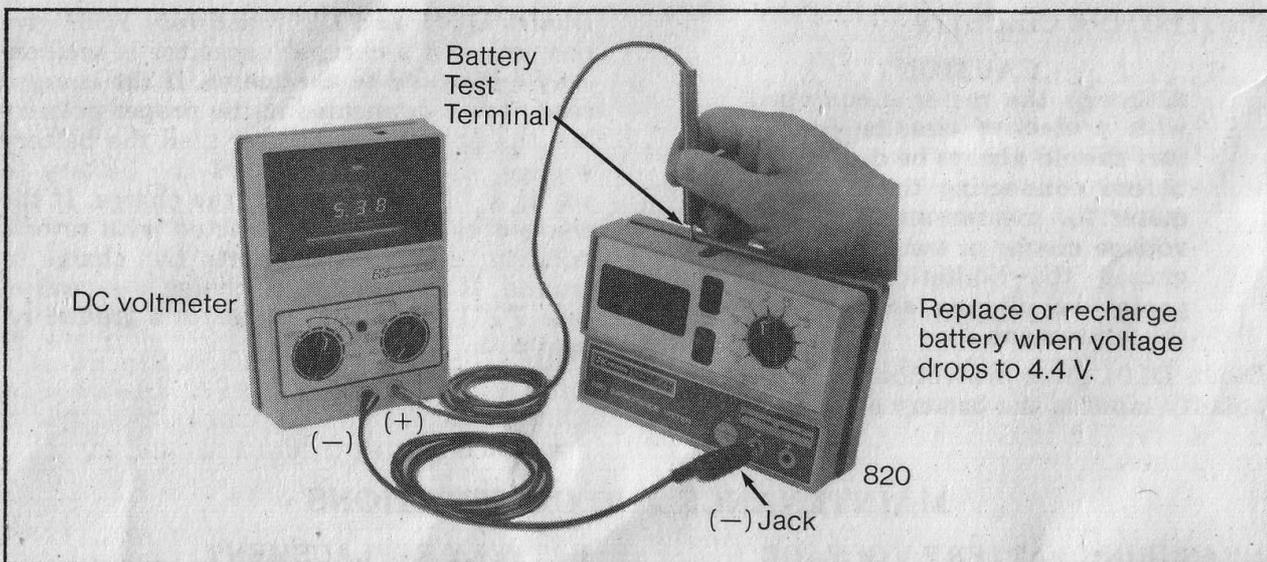

Fig. 3. Measuring battery voltage.
Periodically check battery voltage. Measure the DC voltage between the (-) jack and the battery test terminal of the 820 (see Fig. 3). Batteries must be replaced or recharged when voltage drops to 4.4 volts.
1. Before removing covers, make sure battery voltage exceeds 4.4 volts (Fig. 3).